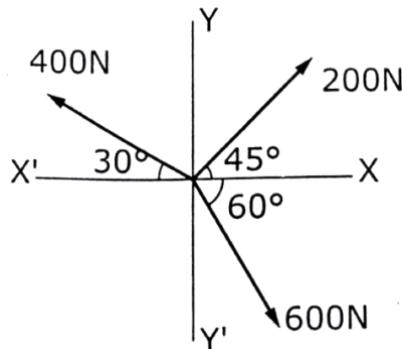

Fig.11(b)
- B. Three coplanar concurrent forces are acting at a point as a shown in fig.11(b). Determine the resultant in magnitude and direction. (6)
- C. Five coplanar concurrent forces are acting at a point as shown in Fig.11(c) (10)